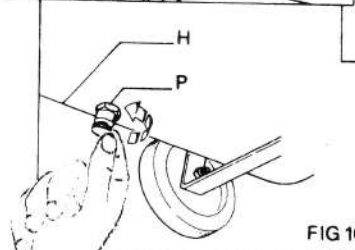

FIG 16
- Humidity of the air which condenses in the air receiver (H) must be drained, at least weekly through tap (P) as shown on (fig. 16) both to retain the space in the air receiver and to extend its life.